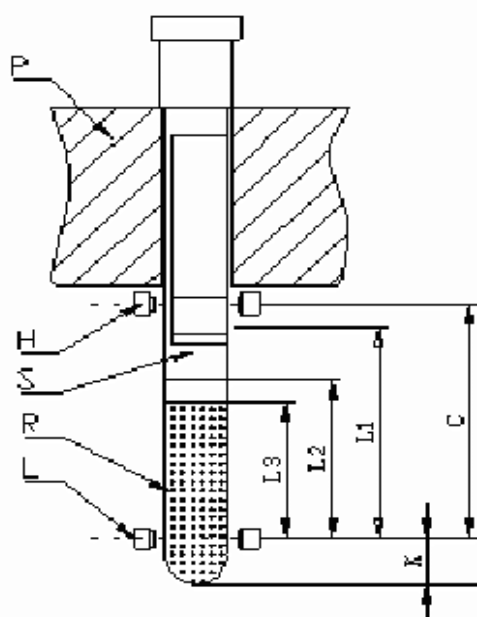

Figure 5-1
The principle of data reading is shown in Figure 5-1. The moving area of the infrared optical coupler (TX-RX) is C, L is the bottom position, H is the top position. During the movement of the infrared optical coupler (TX-RX) from bottom (L) to top (H), if the infrared light can not reach the receiver, then it means the infrared light is obstructed by high density red blood cells. Once the infrared light can go through ESR tube and reach the receiver, the receiver will send signal to the computer to calculate the distance to the bottom.